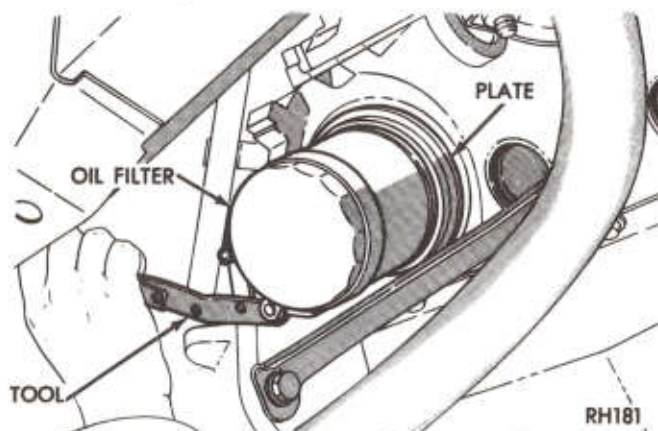

Fig. 64—Removing Oil Filter with Tool C-4065
- (1) Using Tool C-4065, unscrew filter from base and discard (Fig. 64).
- (2) Wipe base clean, then inspect gasket contact surface.
- (3) Lubricate gasket of new filter with clean engine oil.
- (4) Install and tighten filter to 15 foot pounds torque, or 3/4 to 1 turns after gasket contacts base. Use filter wrench, if necessary.
- (5) Start engine and check for leaks.